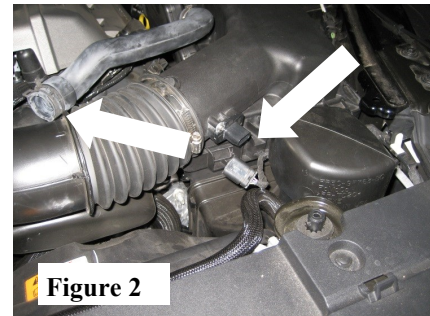

Figure 2
2. Remove the air box assembly and intake tube by disconnecting the sensor wiring, acoustic tube, and mounting bolt (10mm head). (See Fig. 2)